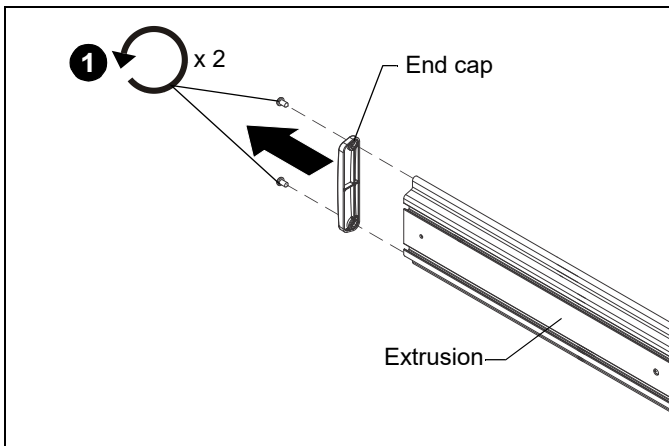

Figure 4
1. Remove screws and end cap from extrusion. (See Figure 4)